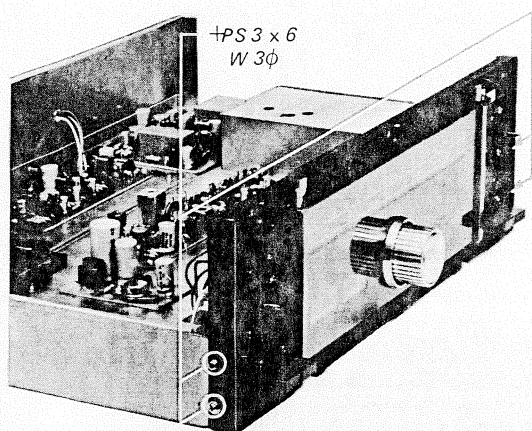

Fig. 2-9 Front subchassis removal (1)
2. Remove the two screws (+PS 3 X 6) at each side of the subchassis as shown in Fig. 2-9.